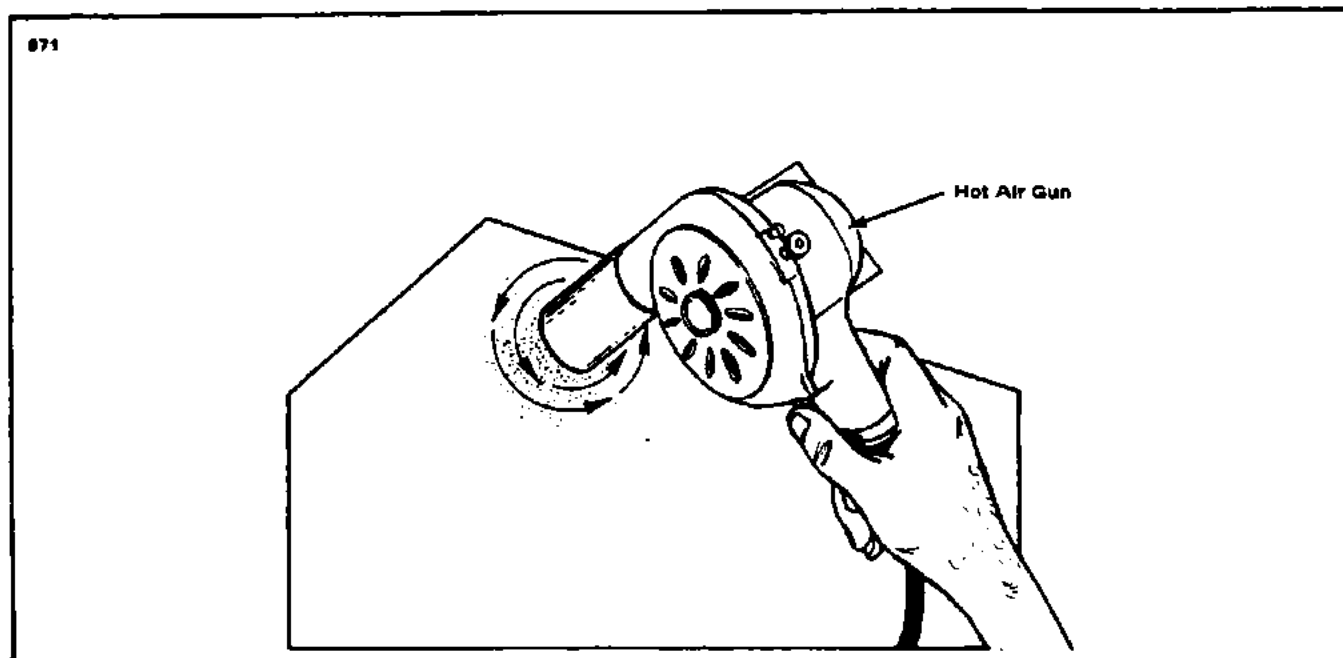

Figure 4-14. Surface Scratches, Abrasions or Ground-in-Dirt
- b. Surface Scratches, Abrasion or Ground-in-Dirt: (Refer to Figure 4-14.)